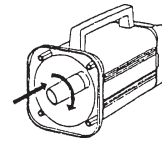
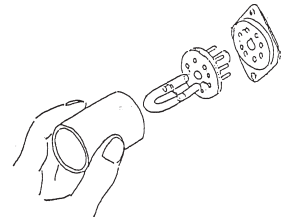
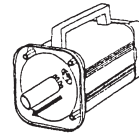

fig. 4.1b
fig. 4.1c
fig. 4.1d
Insert tool all the way and turn clock-wise until tool unlocks (fig. 4.1b).
Pull out tube (fig. 4.1c and fig. 4.1d).
5. Install new flash tube using the removing tool (in the opposite direction fig. 4.1d) and turn counter-clockwise until tool locks (fig.4.1b).